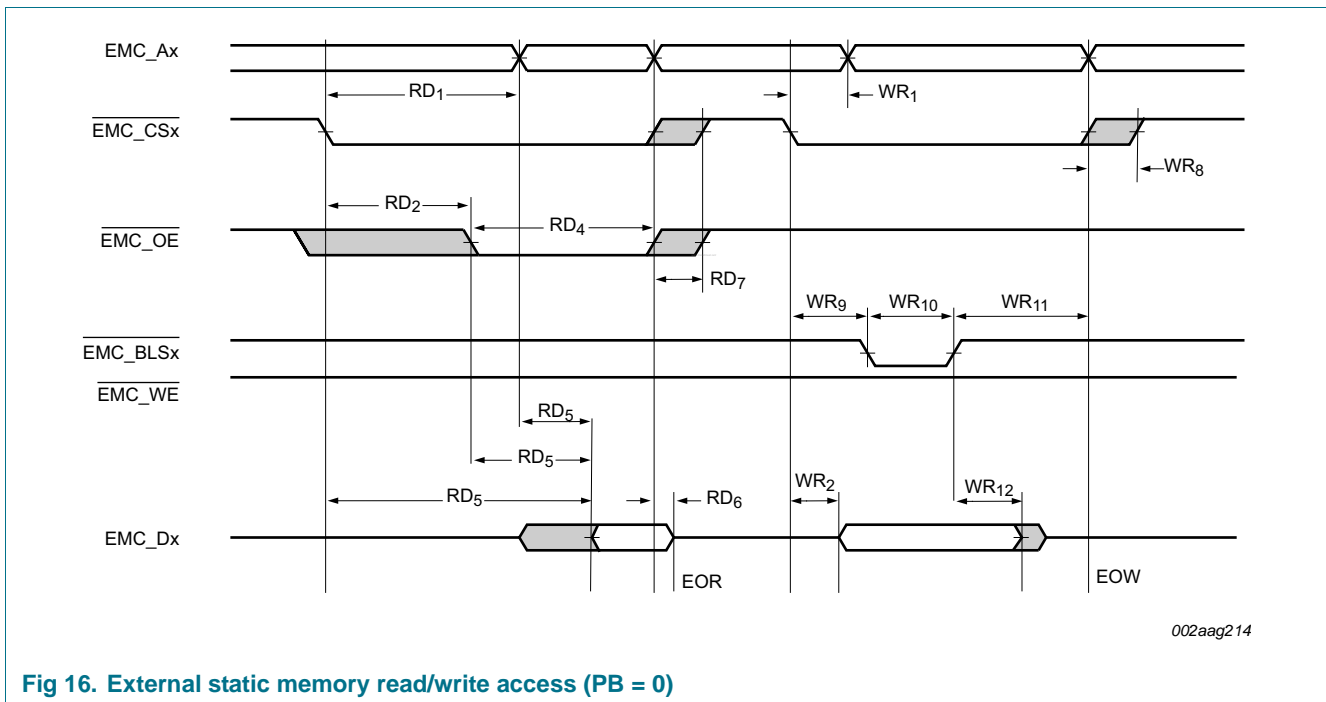

Fig 16. External static memory read/write access (PB = 0)
- [1] Parameters are shown as RD_n or WD_n in Figure 16 as indicated in the Conditions column.